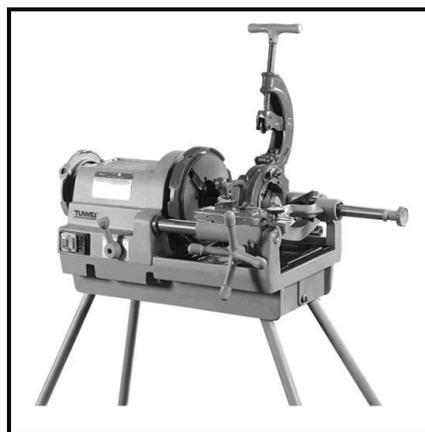

FIGURE 4.11
4.11 FIGURE 4.11 below shows a machine that is used in the plumbing industry.